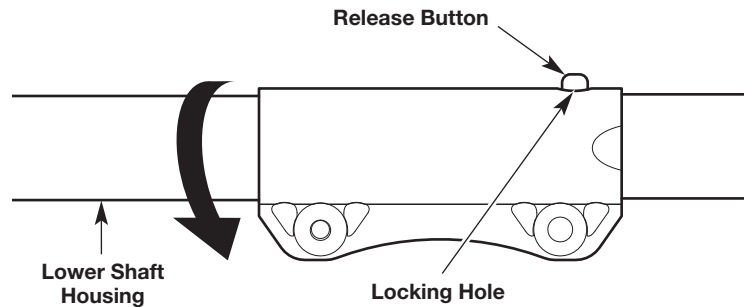

Fig. 6
6. Rotate the lower shaft housing until the release button snaps firmly into the locking hole (Fig. 6).